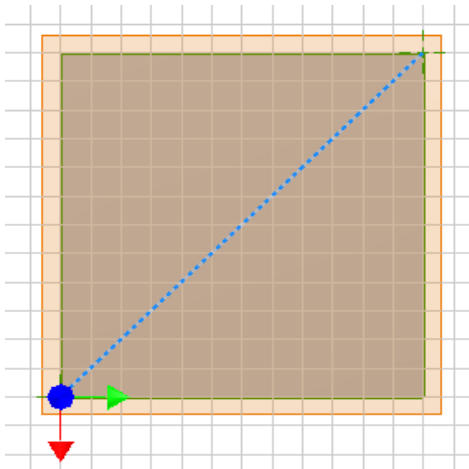

Figure Step 7
**Step 7** Use the LOOKAT command to look perpendicular at the work plane. Draw a construction line snapping from one corner to the opposite corner. See Figure Step 7.